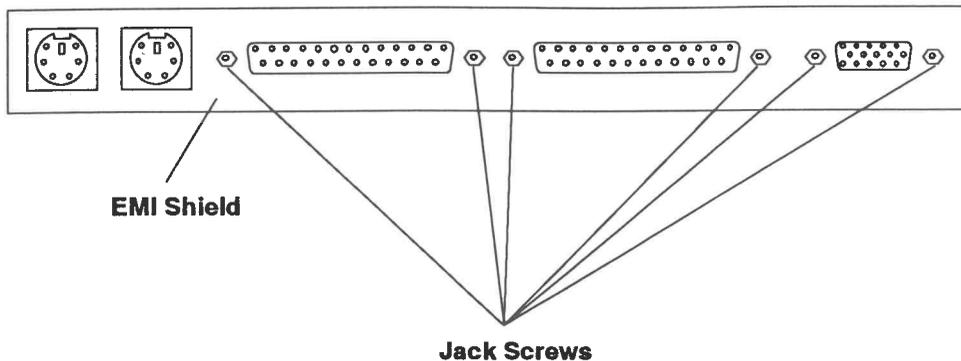

Figure 2-10 EMI Shield Jack Screw Locations
15. Using a 3/16-inch nut driver, remove the six jack screws that fasten the EMI shield to the original system board (see Figure 2-10). Save the EMI shield and jack screws to mount to the new Reply system board later.
1. Install the EMI shield formerly installed on the original system board on the Reply system board (see Figure 2-10).